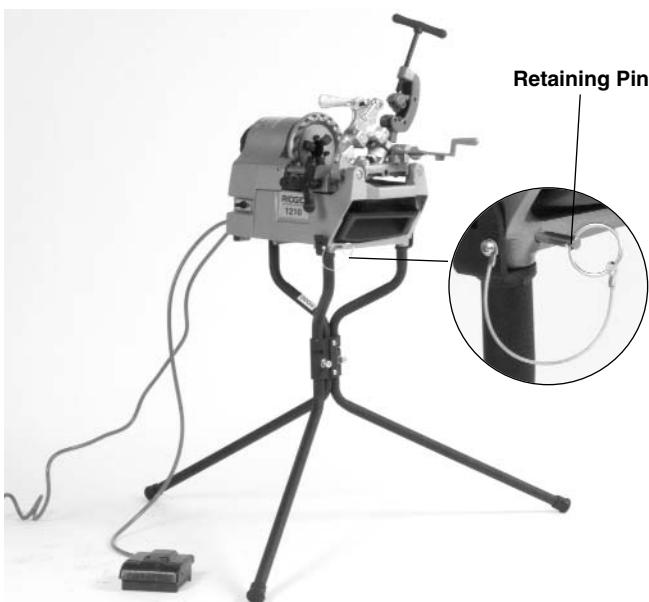

Figure 4 – 1210 Machine Mounted on Model 120 Stand
- Insert the retaining pin into the base of the threading machine (*as shown in Figure 4, inset*). Retaining pin helps to prevent tipping of the threading machine during use.